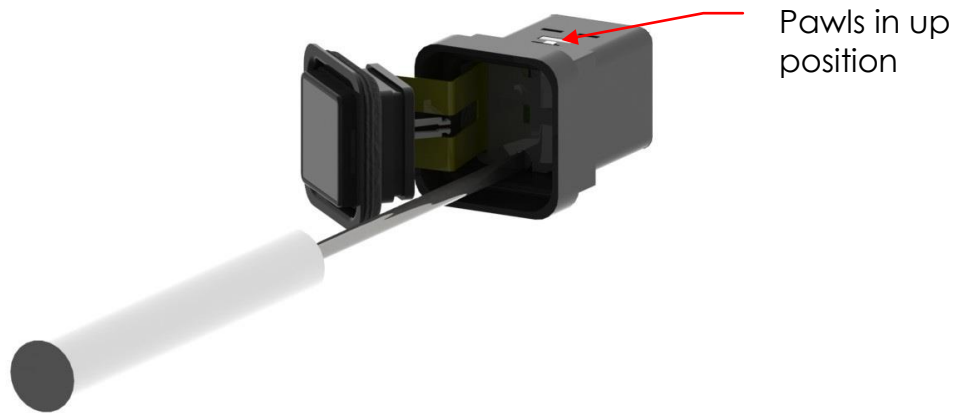

Figure 5
- 3.4. Unscrew internal screw pawls (counter clock wise) to loosen mounting spacers, watertight cup and watertight seal. Screw pawls should retract back into switch body housing to enabling removal of mounting spacers. The removal of the cup and seal are not necessary, but it is good practice to ensure that there are no particles or other foreign objects (Figure 5, 6 and 7).